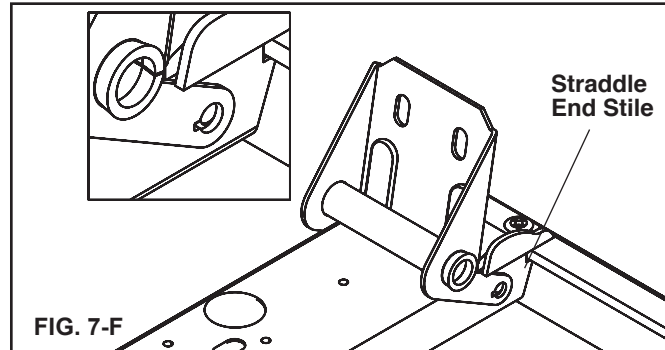

FIG. 7-F
Step 7-8: Select the hinge with the 00 stamped on it along with one 2-1/4" keyed center hinge pin. Straddle the center stile with the hinge while aligning the keyways on either leg of the stile. (FIG. 7-H)